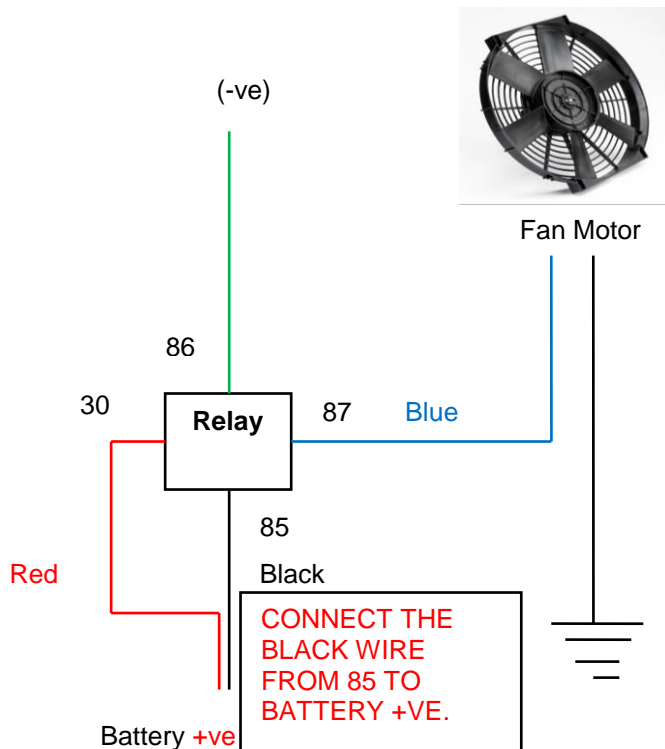

Figure 5: Fan to Controller wiring diagram
*FLASHING* = EWP operating in ‘pulsing’ mode – Refer Figure 5, areas (A) & (B).
*ON* = Electric Water Pump (EWP®) running between 6V – Battery Voltage: Refer Figure 5, area (C)
Please refer to the figure 5 for fan to controller wiring details. Please call Davies, Craig at (03)93691234 if you required another remote LED to complete the wiring.